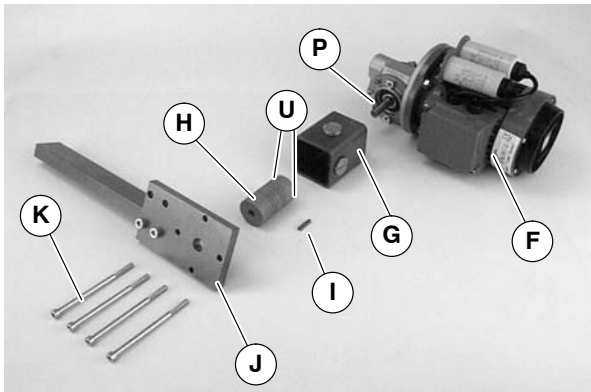

Figure 6
- Attach flex coupling (H of Figure 6) to gearmotor shaft. Tighten set screws (U).
- Install key (I of Figure 6) in gear reducer shaft (P).
- Attach guard tube (G) and gearmotor support assembly (J) to gearmotor assembly (F) with screws (K). Tighten screws (K) to 50 in-lb (5.6 Nm).